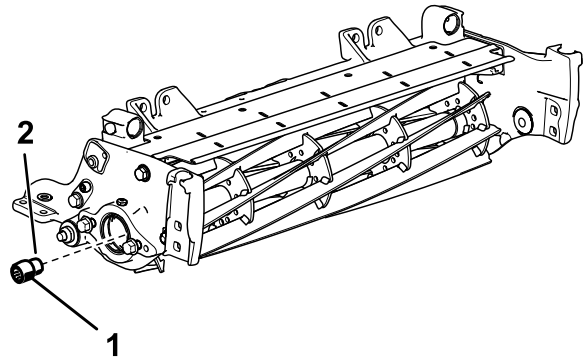

Figure 3
5. Remove the existing splined insert from each end of the reel shaft using the reel driveshaft tool (Part No. TOR4112 for the 5-inch reel and Part No. TOR4074 for the 7-inch reel). Refer to Figure 3.